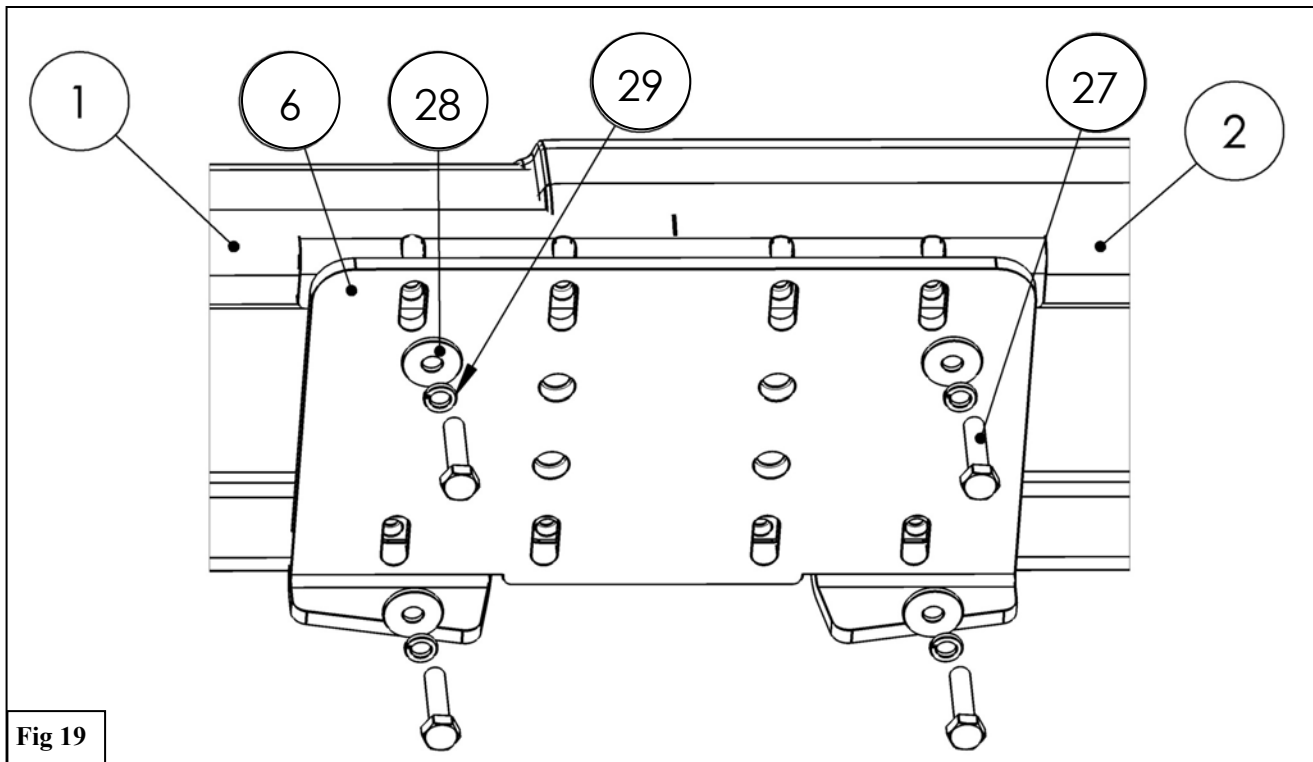

Fig 19
17. Obtain the Link Plate (6) and secure it to the Step Bar Assembly (1 & 2) using the supplied M6 Hardware. See **Figure 19**.